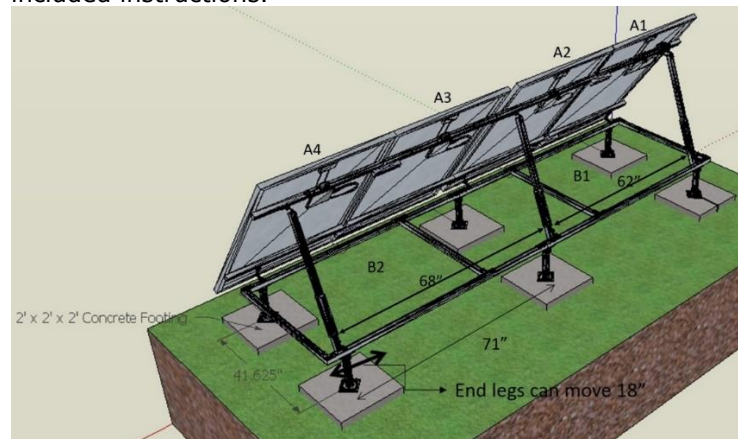

Figure 1: Dimensions of the three back supports and allowable leg offsets.
The ANSI UL2703 certification is valid only when mounted in the manner specified in this instructions. The system is certified for a 30lb/ft2 load rating. This system is Not Fire Rated. Tighten all hardware to the torque specifications in the table above. The Maximum (DC) Series Fuse Rating for each solar module is 15A. The assembled dimensions of the SolarPodTM is given in Figure 1. The UL2703 listing has been evaluated for these dimensions. The middle support panel tilt adjust bar must be 68" and 62" from A4 and A1 as shown in the Figure. The base feet must be between 78" and 60" from the center. The legs cannot be greater than 12" high. The SolarPodTM Grid Tied can be bonded together using a minimum AWG #6 size wire. SolarPodTM Grid Tied has been evaluated to a maximum overcurrent protection device (OCPD) of 15 Amps.